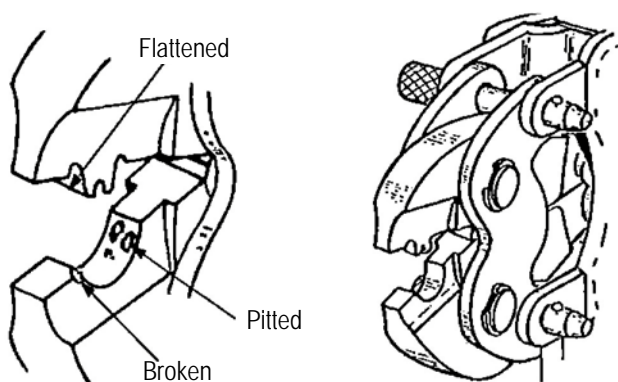

Figure 9
2. Inspect the die closure surfaces for flattened, broken, or pitted conditions. Although dies may gage within permissible limits, worn or damaged die closure surfaces are objectionable and can affect the quality of the crimp. Examples of possible damaged die closure surfaces are shown in Figure 9.